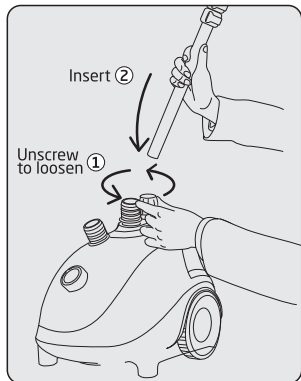

FIGURE 2
1. Unscrew the pole locking nut. Insert the telescopic pole and lock in place. (see figure 2)